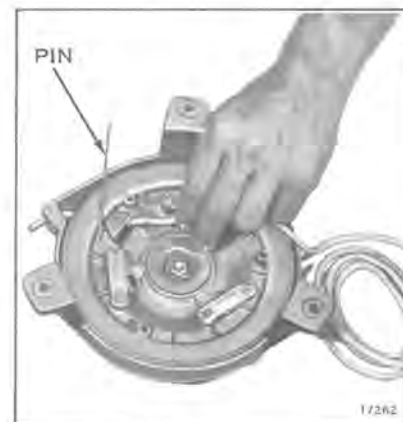

Figure 8-2
- j. Insert rope through pulley and starter housing. See Figure 8-2. Seat rope knot firmly in pulley. Tie a slip knot in starter rope and allow pulley to rewind.